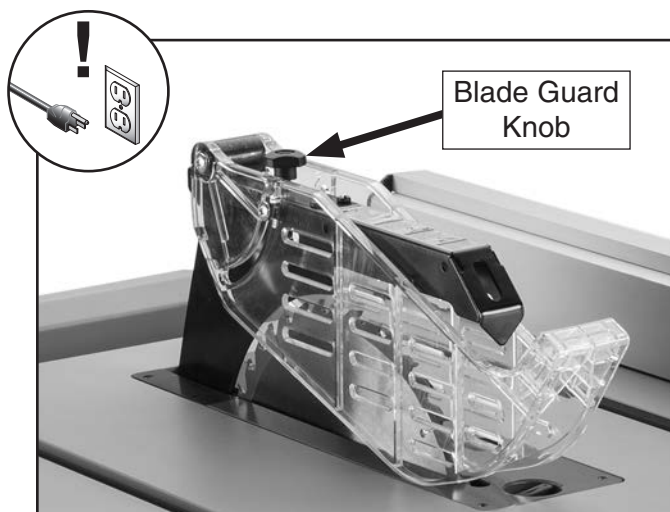
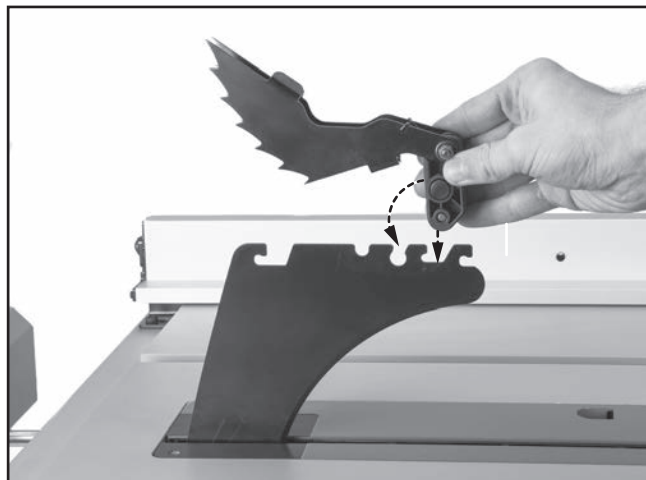

Figure 34. Location of blade guard knob.
Figure 36. Installing anti-kickback pawls.
2. Loosen blade guard knob (see **Figure 34**), slide upper blade guard assembly toward front of saw, and remove it from spreader.
4. Re-install upper blade guard assembly and tighten blade guard knob (see **Figure 34** on **Page 29**).
To install the pawls, insert front of pawl assembly into spreader where shown in **Figure 36**, then pivot back of pawl assembly down and snap in place. Re-install upper blade guard assembly and tighten blade guard knob (see **Figure 34** on **Page 29**).